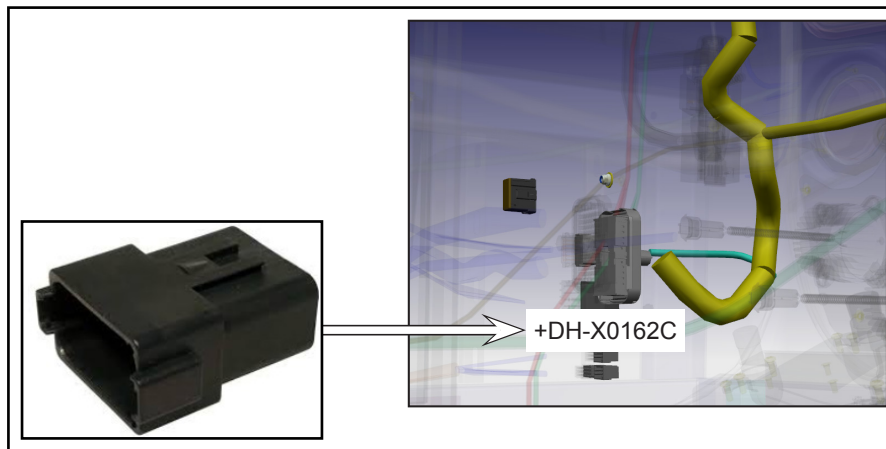

Figure 5 - Connector +DH-X0162C Positioning
1.11. Connect the cables CAB062VL and CAB062VM into +DH-X0162C (see Table 1 and Figure 5).